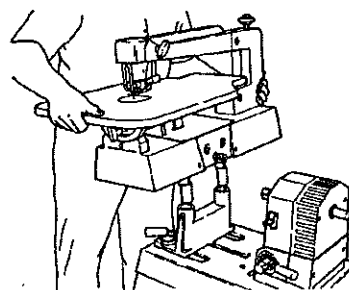

Fig.D-1
4. Insert the Scroll Saw tubes into the tall holes of the Power Station carriage (21), with the Scroll Saw's drive shaft pointed toward the Power Station headstock. See Fig.D-1. You may need to adjust the Scroll Saw's tubes to fit them in the tube holes.